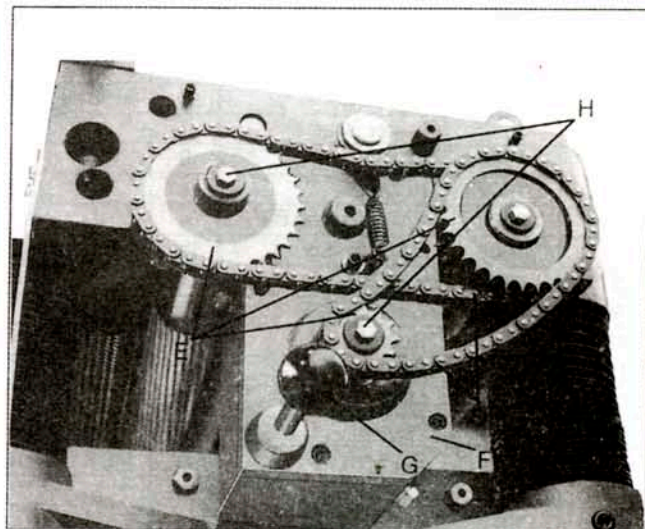
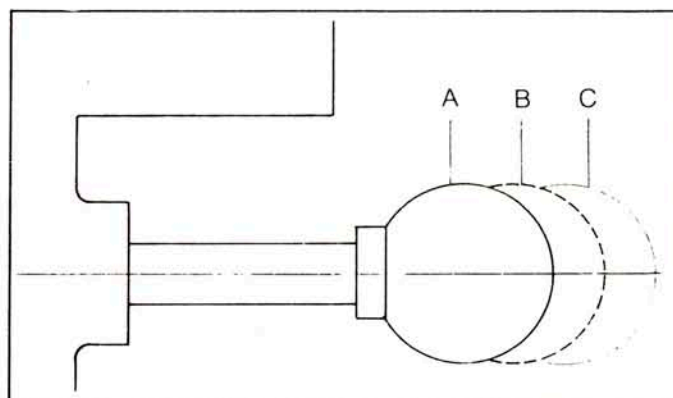

Fig. 33
Fig. 34
Your machine is equipped with a spiral, serrated infeed roller and a solid steel outfeed roller. When the feed rollers are engaged, they turn to feed the stock. The Feed rollers slow automatically when the machine is under heavy load for best planing under all conditions. The feed rollers are driven by chains (D) Fig. 33 and the sprockets (E), which takes power directly from the cutterhead through the oil bath gear box (F) Fig. 33
There are two feed speeds in the gear box by using the shift lever (G) Fig. 33 to pull out or push in, and the feed speed range as shown in Fig. 34.
Shift gears handle, shown as Fig. 34. There are three kinds of operations of gear box by using shaft handle to pull or push. In the position A feed roll is operating on rate 20 FPM. Shown as Fig. 16 In the position B feed roll is operating on rate 0.